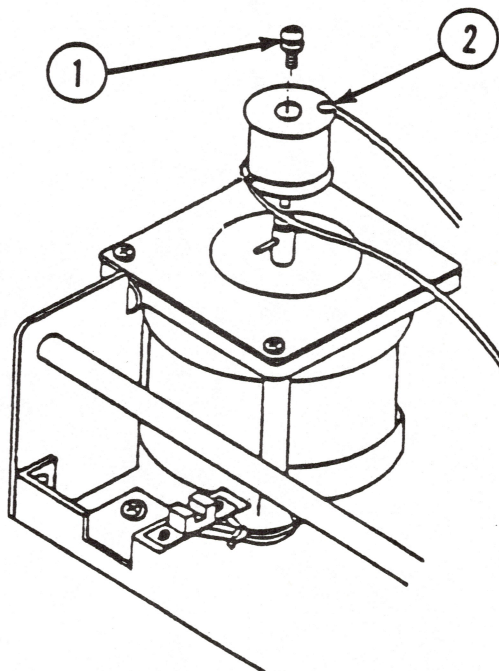

FIGURE 7
14. Use a phillips screwdriver to remove the screw from the top of the motor pulley (see Figure 7, #1).
17. Remove the top end of the carrier wire (see Figure 7, #2).